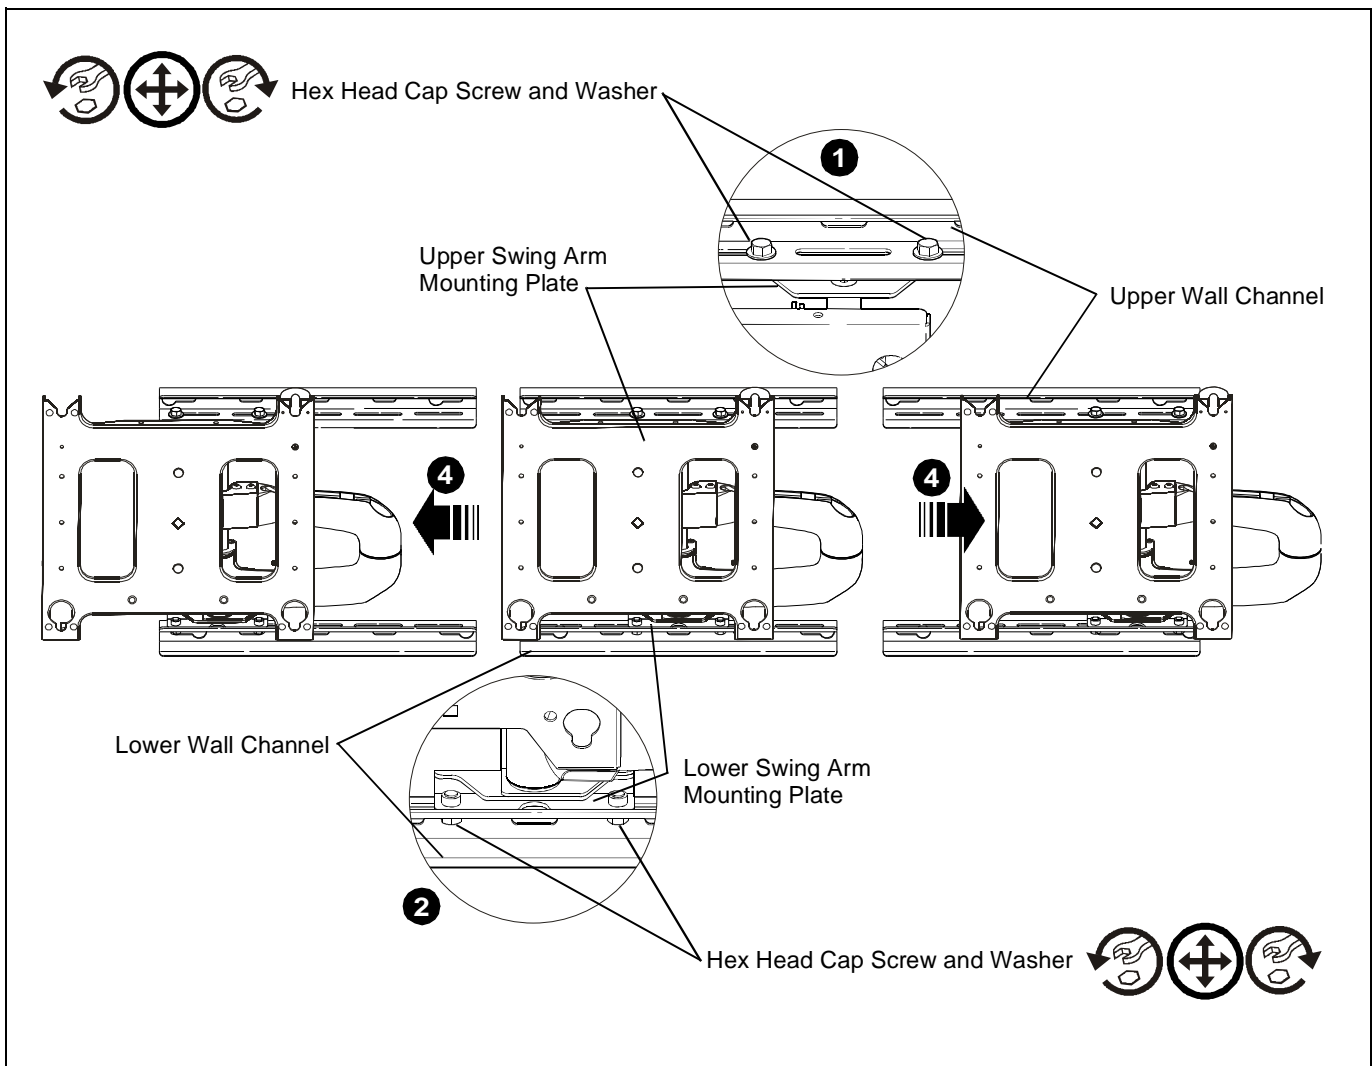

Figure 4
2. While holding swing arm, remove two hex head cap screws and two washers securing swing arm to upper wall channel. (See Figure 4)
3. While holding swing arm, remove two hex head cap screws and two washers securing swing arm to lower wall channel. (See Figure 4)
4. Set hardware aside for reuse. (See Figure 4)
5. Slide swing arm left or right until desired location is reached making sure mounting holes in swing arm upper and lower mounting plates align with mounting slots in upper and lower wall plates. (See Figure 4)
6. Secure swing arm to upper and lower wall channels using hex head cap screws and washers set aside during steps 1 and 2. (See Figure 4)